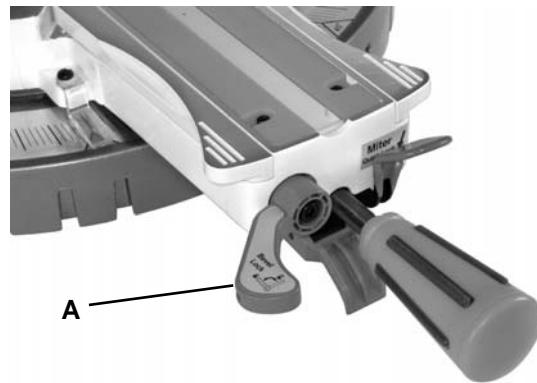
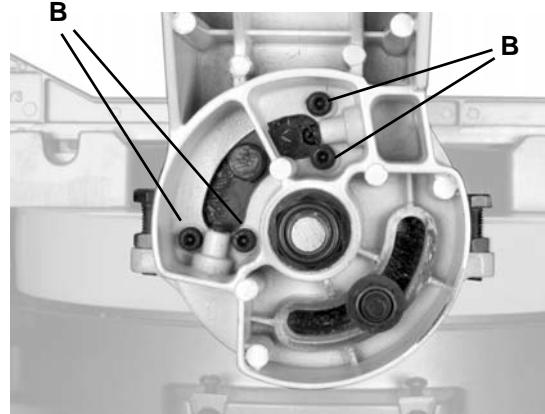
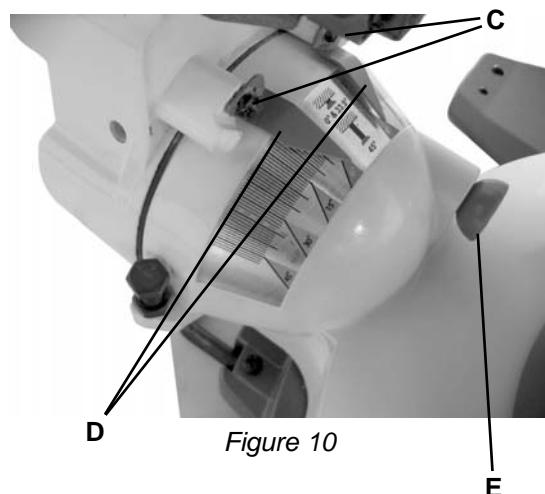
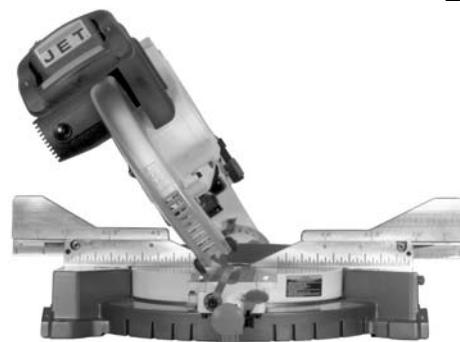

Figure 8
Figure 9
Figure 10
Figure 11
1. Turn the *bevel lock handle* (A, Fig. 8) clockwise to loosen and tilt the cutting arm while pushing the *bevel detent pin* (E, Fig. 10) *in* against the 0° bevel stop. Turn the *bevel lock handle* (A, Fig. 8) counterclockwise to tighten.
3. Using a 5mm hex wrench, loosen four *adjustment bolts* (B, Fig. 9) at the back of the miter saw. Unlock the *bevel lock handle* (A, Fig. 8) and position the cutting arm to be zero degrees to the table using the combination square as your reference.
4. Tighten the *bevel lock handle* (A, Fig. 8) and the four *adjustment bolts* (B, Fig. 9).
2. With cross-point screwdriver, loosen two *bevel indicator screws* (C, Fig. 9).
3. Adjust *bevel indicators* (D, Fig. 9) to the "0" mark on the bevel scale and retighten the screws (C, Fig. 9).
1. Set the miter angle to zero degrees. Fully extend the sliding fence completely to the left then pull the *bevel detent pin* (E, Fig. 10) out.
2. Loosen the *bevel lock handle* (A, Fig. 8) and tilt the cutting arm completely to the left (Figure 11).
2. Loosen the *bevel lock handle* (A, Fig. 8) and tilt the cutting arm completely to the right (Figure 13).
2. Loosen the *bevel lock handle* (A, Fig. 8).